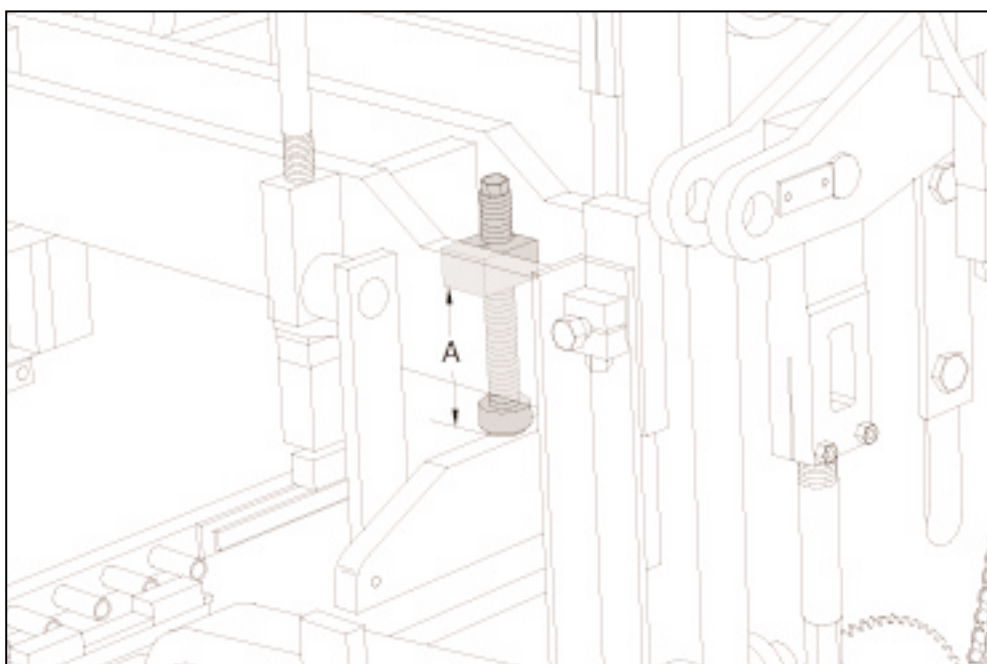

Figure 4.65 INSTALLING SHOCK ABSORBERS AND ADJUSTING.
4.4.8 Install the **470mm [18 1/2"]** shock absorbers (**part #282177**). Adjust the shock absorbers to a dimension of **300mm [11.812"]** (represented by "A" in figure 4.65) from the bottom of the welded clamp block to the bottom of the rubber pad.